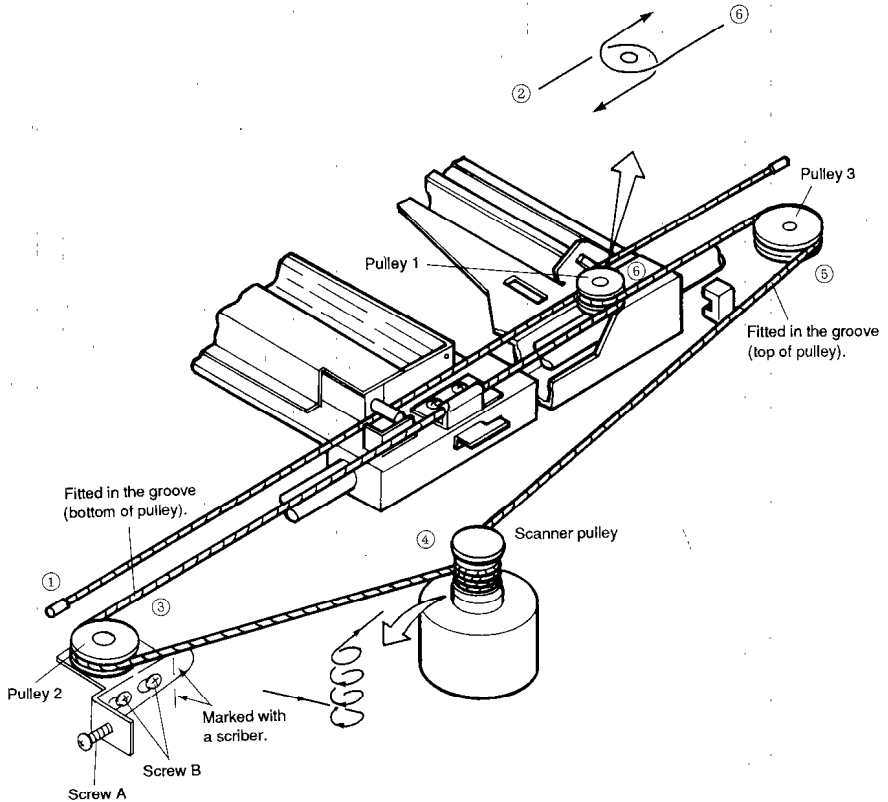

Figure 4-24
- 1) Route the cable as shown in Figure 4-24.